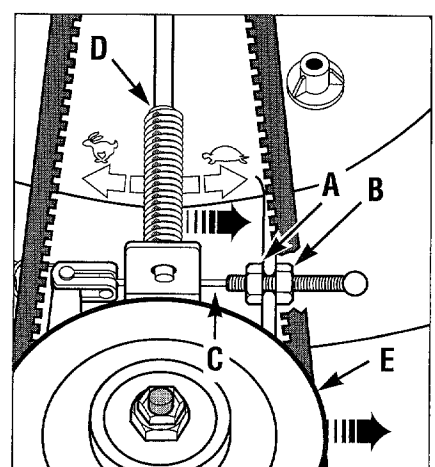

Figure 5-3: Manual wheel speed adjustment to **SLOWER** speed.
H. To decrease the wheel speed, loosen the inner locknut (**A**, Figure 5-3), while pushing both the pulley (**E**) and adjustment rod spring (**D**) toward the turtle symbol. Hold the spring and pulley in the new position.